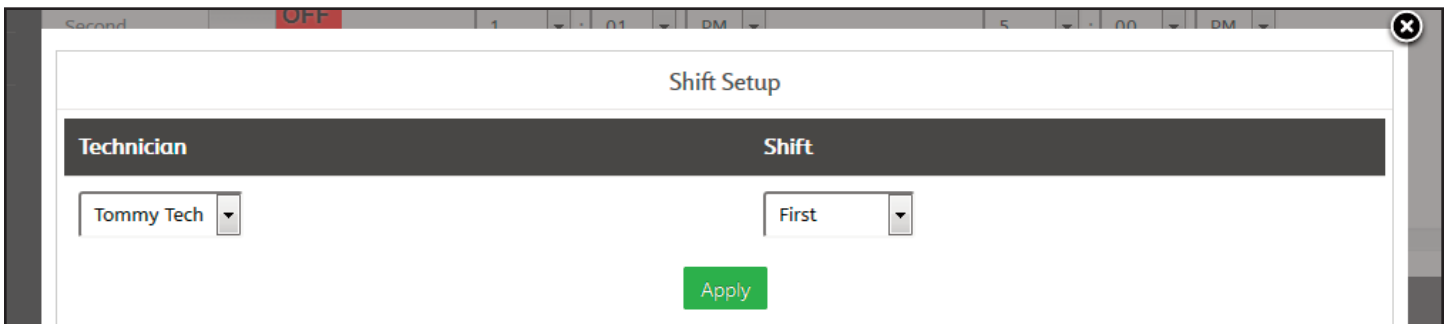

Figure 26 – Technician Shift Setup
2.8.2.1 Technician Shift Setup – Click the green **ADD** button, a new window opens to select the Technician and select the specific shift. (Fig. 26)